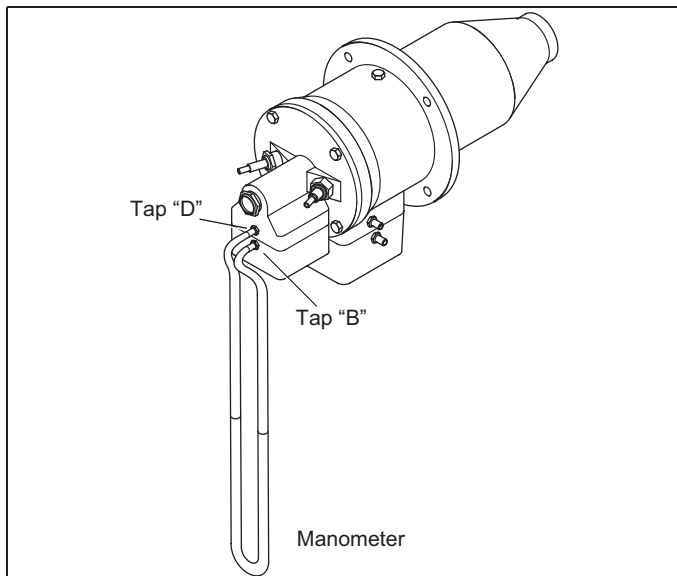

Figure 4.3. Set High Fire Gas
Step 6: Set High Fire Gas (Figure 4.3)
2. Connect the manometer to taps B and D (across the gas orifice, see Figure 4.3).